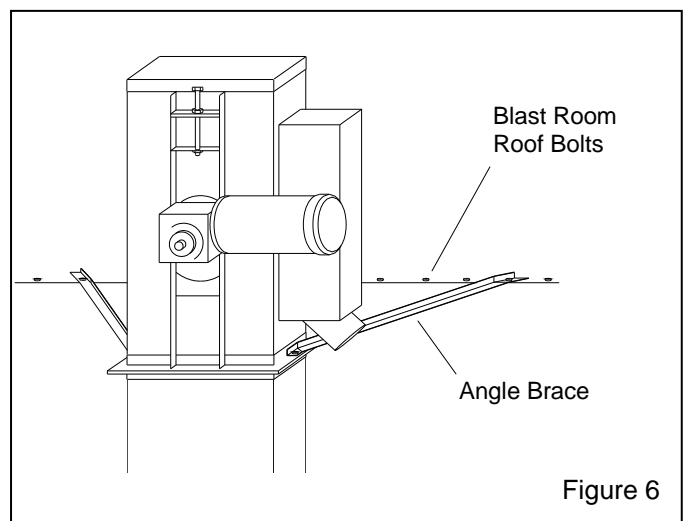

Figure 6
**3.3.4** The elevator may require bracing to stabilize it. One method would be to attach diagonal braces from the elevator to the blast room, as shown in Figure 6.